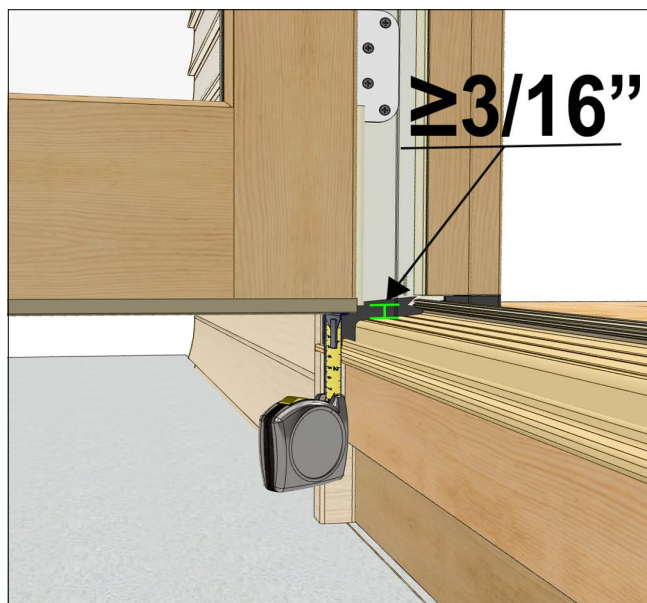

Figure 13
2. Check panel clearance at the sill. The panel should have a minimum of 3/16" clearance at the bottom. The vertical adjustment screw should be adjusted equal amounts starting with the bottom hinge. Check index mark on hinge leaf to determine amount and direction of panel movement. See Figure 13.